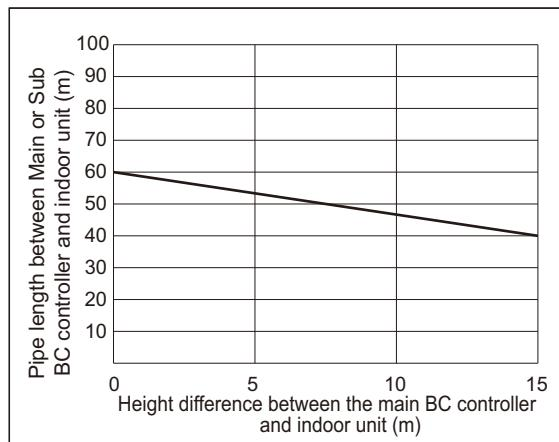

Fig. 2
*9. When the piping length or the vertical separation exceeds the limit specified in Fig. 2, connect a sub BC to the system.
When using indoor models P/M140 or larger, the restrictions shown in Fig. 2 cannot be exceeded.
The restriction for a system with a sub BC connection is shown in Fig. 3. When a given system configuration falls within the shaded area in Fig. 3, increase the size of the high-pressure pipe and the liquid pipe between the main BC and sub BC by one size. When using P/M32, P/M40, P/M50, P/M100, or P/M125 model of indoor units, increase the size of the liquid branch pipe between the sub BC and indoor unit by one size. When using indoor models P/M140 or larger, the restrictions shown in Fig. 2 cannot be exceeded.